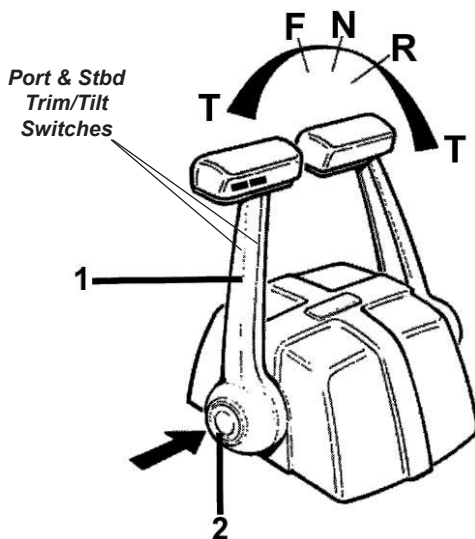

Figure F-3: Dual Binnacle Control Operation
Shifting and engine speed are controlled with the same lever (1). See Figure F-3.